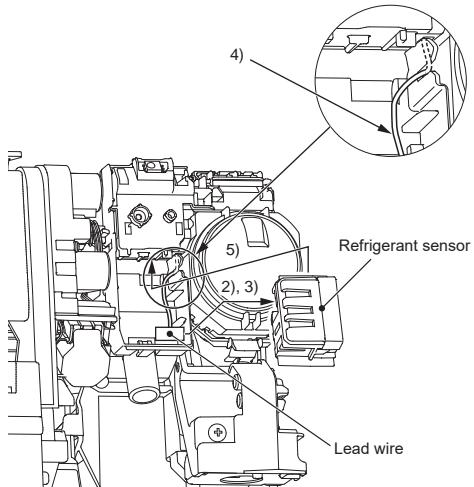

Fig. 1
- 2) Take out the lead wire. (Fig. 1)
(Fig. 1)